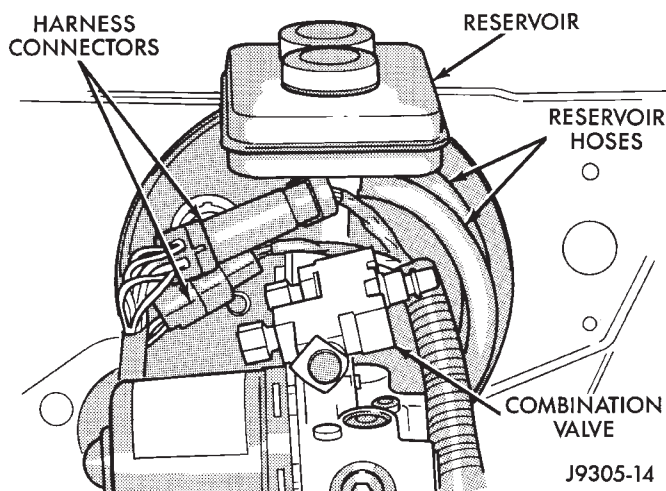
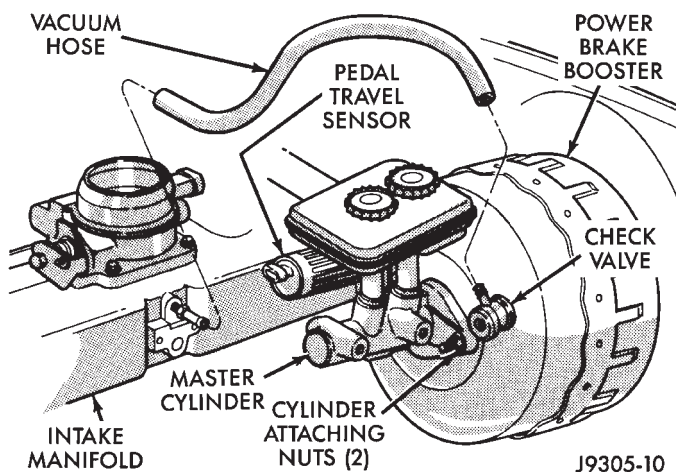

Fig. 2 Harness, Reservoir Hose And Valve Position
Fig. 3 Master Cylinder Mounting
- (4) Disconnect antilock harness connectors and move wire harnesses aside for working clearance.
- (5) Remove clamps that secure reservoir hoses to HCU pipes.
- (6) Position small drain container under master cylinder reservoir hoses.
- (7) Disconnect reservoir hoses (Fig. 2) from HCU pipes and allow fluid to drain into container. Discard drained fluid.
- (8) Disconnect and remove combination valve. Refer to procedure in this section.
- (9) Disconnect brakelines at master cylinder.
- (10) Remove nuts attaching master cylinder to booster mounting studs (Fig. 3).
- (11) Remove master cylinder. Pull cylinder forward and off studs and work it out of engine compartment.
(3) Connect brakelines to master cylinder. Tighten line fittings to 15 N•m (132 in. lbs.) torque.
(4) Connect reservoir hoses to HCU pipes. Be sure hose clamps are securely in place.
(5) Verify that master cylinder and booster are properly attached before proceeding.
(6) Install and connect combination valve.
(7) Connect antilock harnesses (Fig. 2).
(8) Fill master cylinder reservoir and bleed brakes. Refer to bleeding procedures in section dealing with brake bleeding and adjustments.
(9) Install windshield washer reservoir and air cleaner.
(10) Connect battery negative cable.